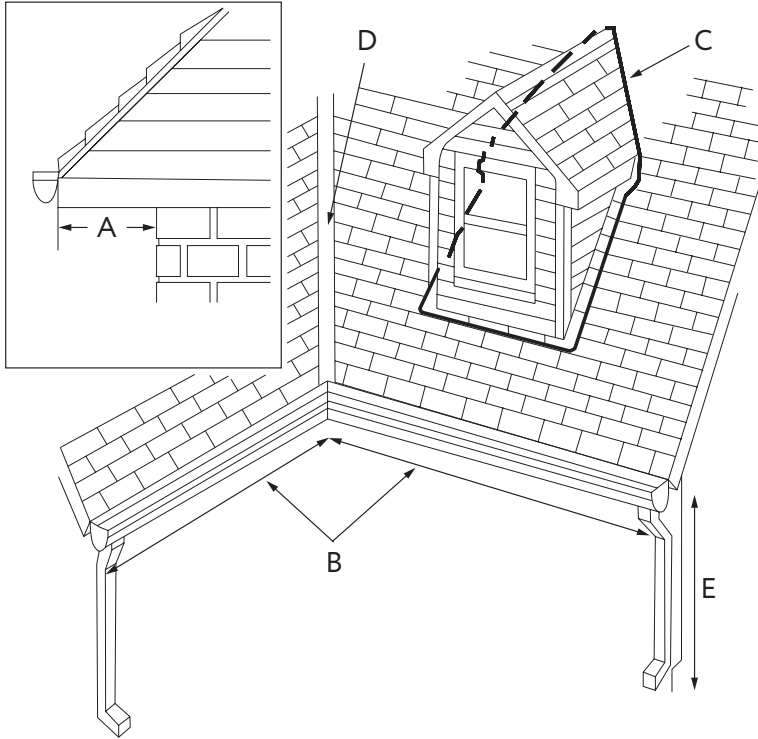

Figure 2.
Use Figure 2 for Tables 3, 4, and 5.
Step 1. For each area shown in Figure 2, measure the required dimensions and then calculate the necessary cable length (see Figure 2, Tables 3 and 4).
If icing occurs only in gutters and drainage pipes, measure the required sizes (see Fig. 2) and calculate the cable length required for each area, as indicated in Table 5.